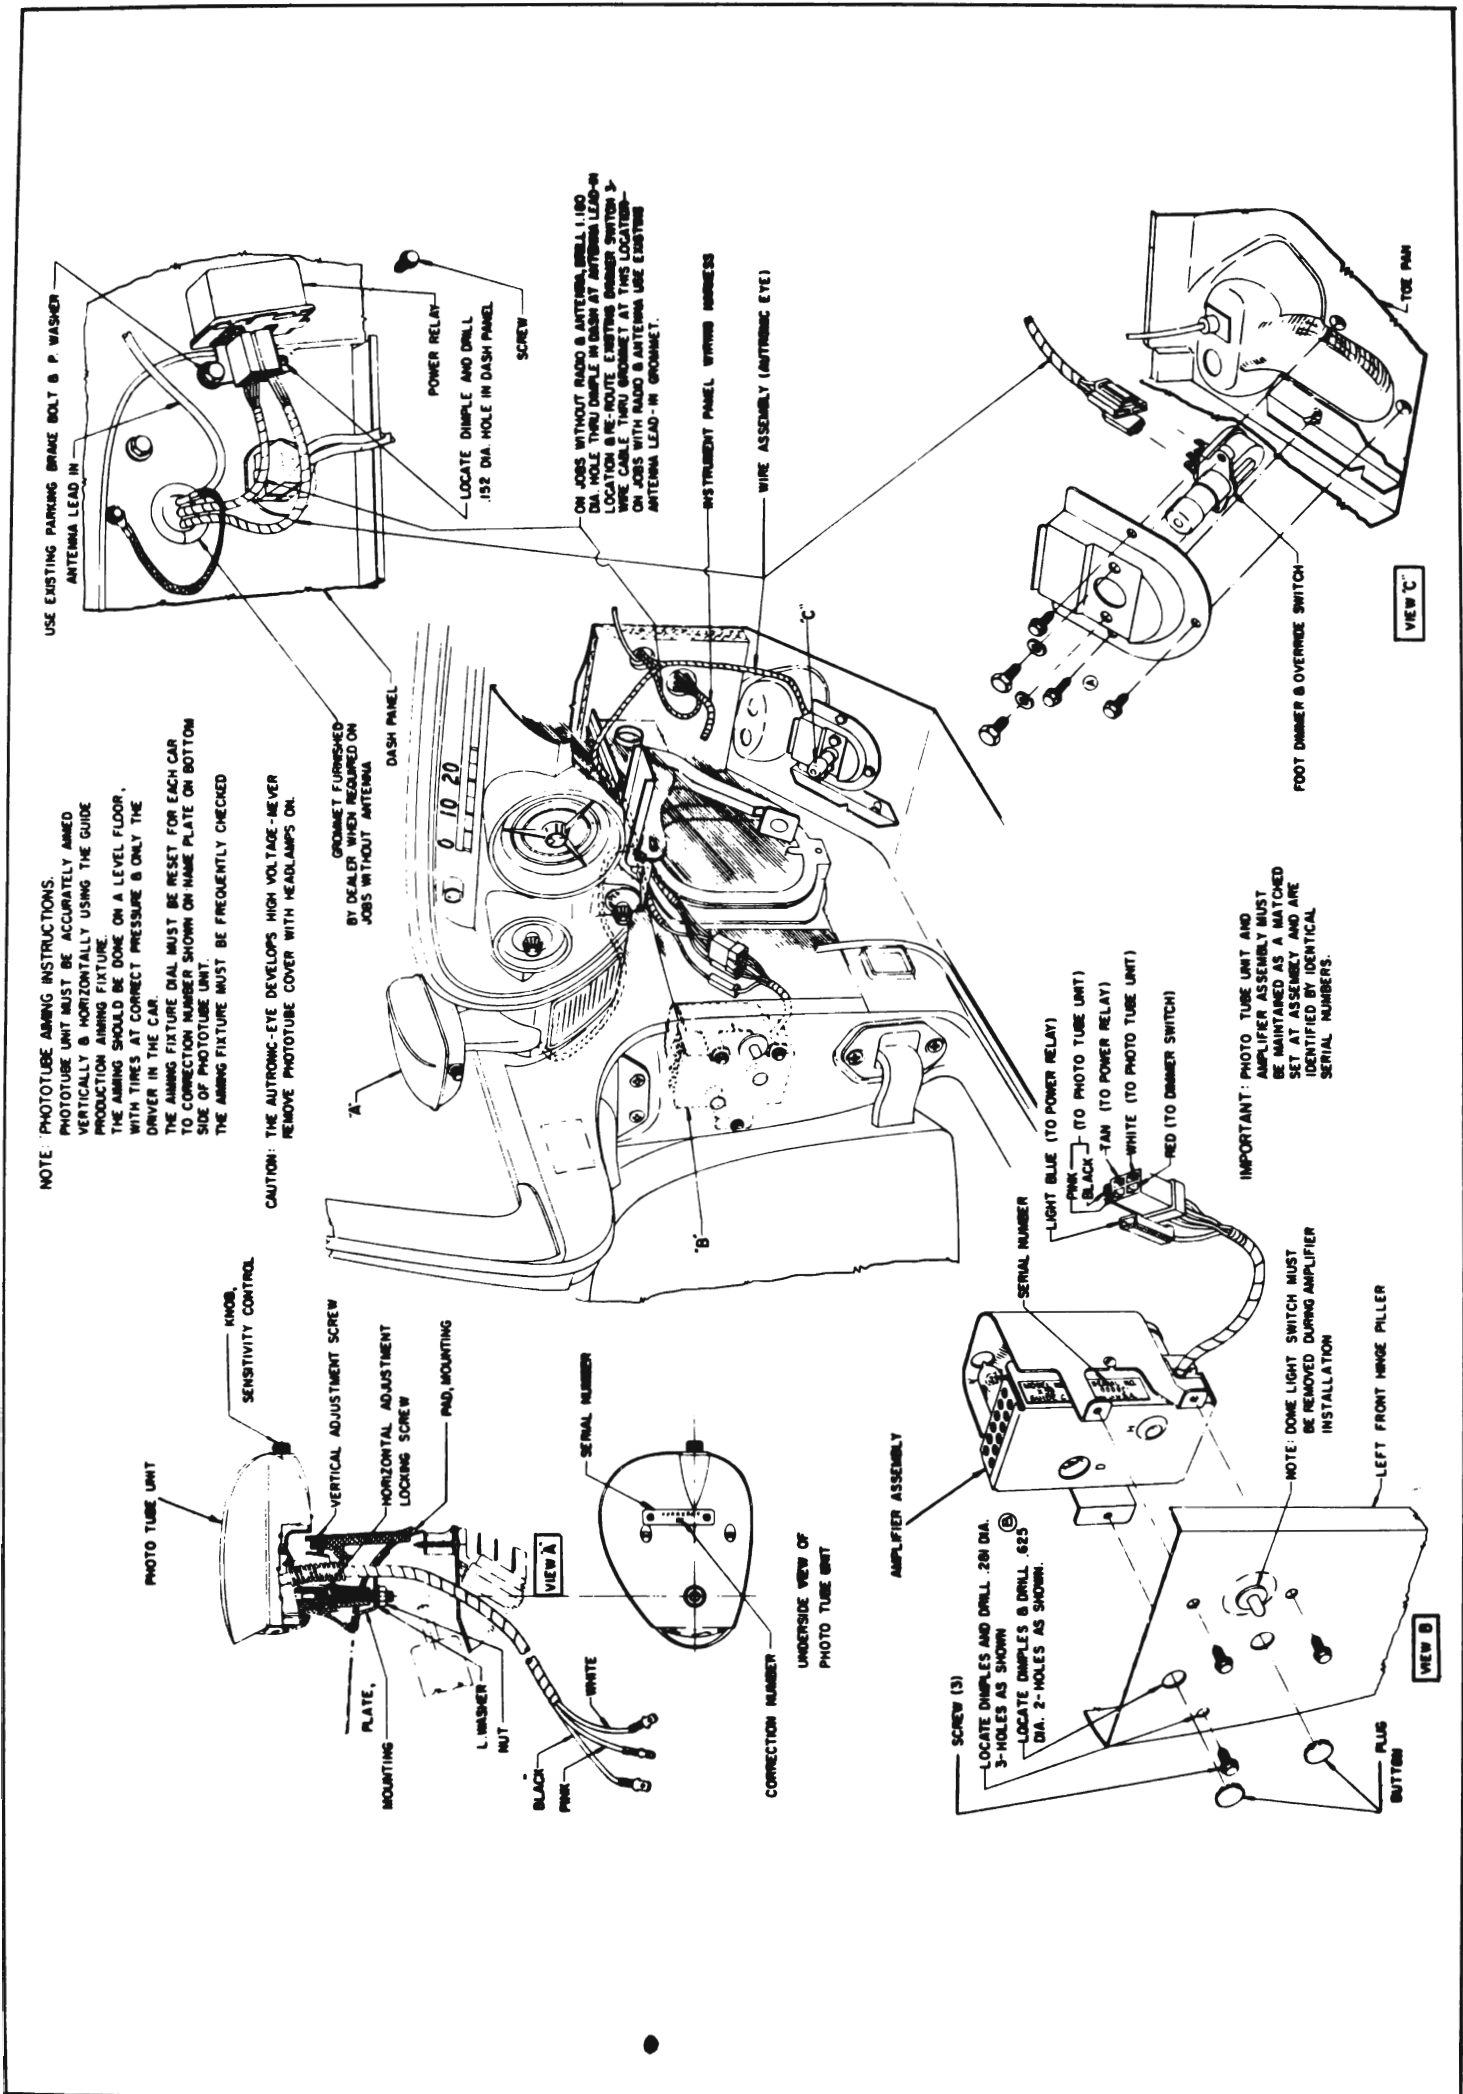

Figure 10-67—Autronic-Eye Installation
1. Make sure wires are properly connected. See figure 10-67.